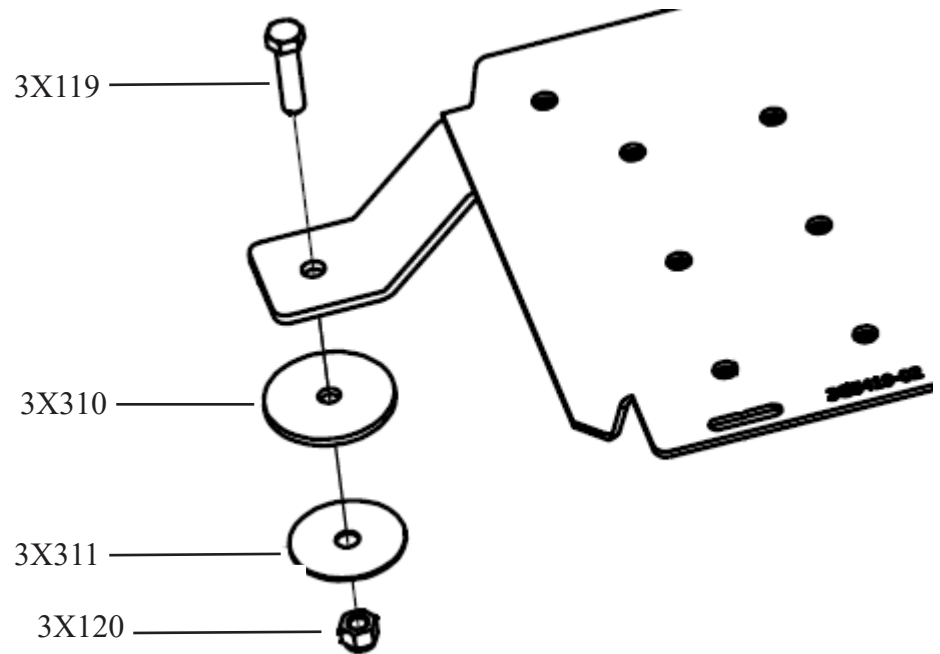

Figure 2.
- Using the base as a template, mark your drill location in the holes as shown in Figure 2.
H. Install the bolt (3x119) from the top as shown in Figure 2, and then the rubber washer (3x310), fender washer (3x311) from the bottom, and the lock nut (3x120). A second installer may be needed to hold the bolt inside the vehicle, while the other installer tightens the nut from below the vehicle.